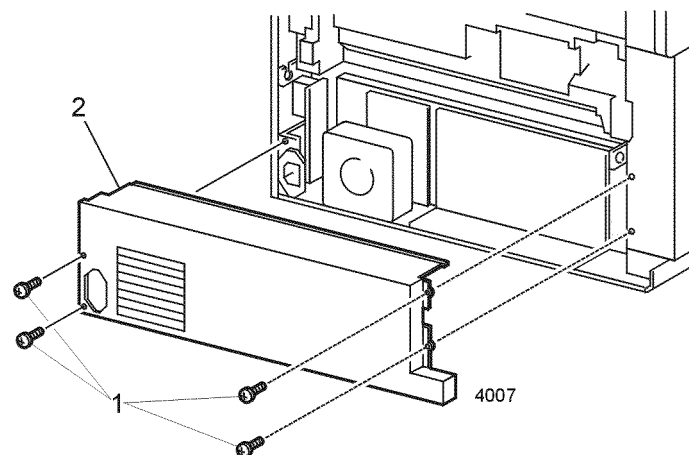

Figure 1 Lower Rear Cover
2. Remove the Lower Rear Cover (Figure 1).